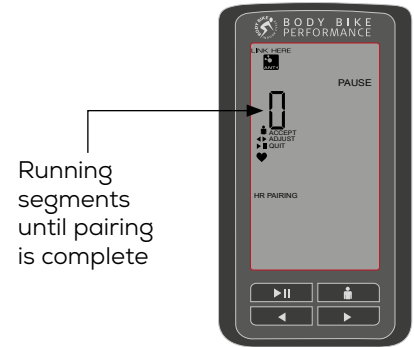
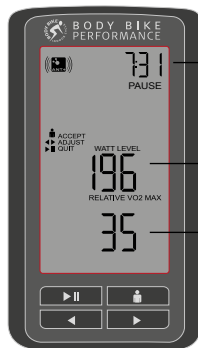

Figure 36
Figure 41
3) If there is no heart rate transmitter paired, the pairing will start automatically and the display will look like figure 36. If a heart rate transmitter is already paired, the display will look like figure 33. Press **F** to maintain this pairing and continue to next setting, see figure 41, or press **◀** or **▶** to start new pairing.
7) Continue until you are unable to progress further. Press any button to end test. The display will show your relative VO2 max and your watt level, see figure 41. Press F or ►E to accept and end or use ◀▶ to adjust.